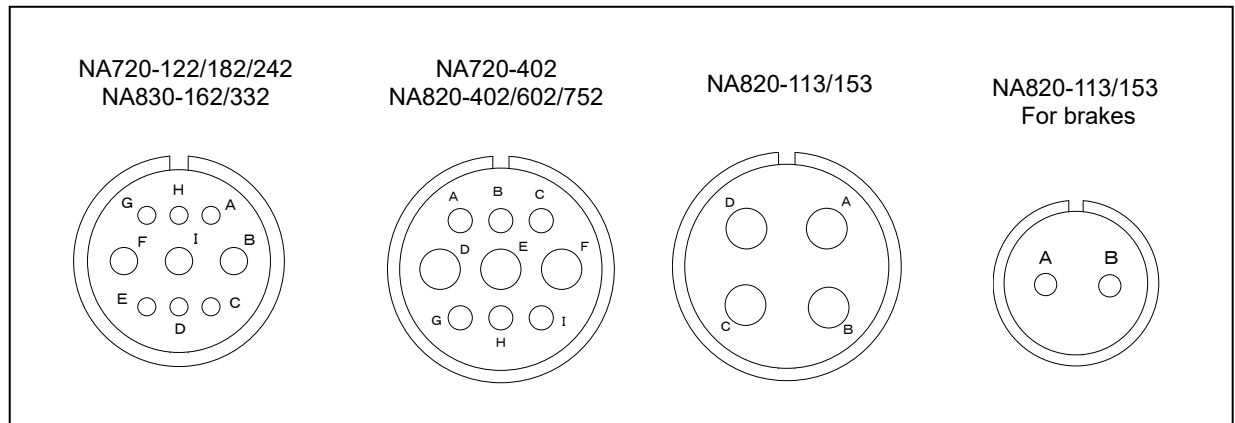

Figure 3-6 Layout of motor wire connector No.
- (1) Connect correctly without mistakes in the phase sequence of the motor connecting terminal (U, V, W, E) and the device connecting terminal (U, V, W, E). (Connect U-U, V-V, and W-W respectively). Connection in the wrong phase sequence interrupts the normal operation, and the motor can vibrate and the motor can also run regardless of the input command, which is very dangerous.
- (2) Motor connecting terminals (U, V, W, E) of the SM motor, model NA720-122/182/242/402, NA830-162/332, and NA820-402/602/752/113/153, are the Cannon type (male). Prepare the Cannon connector for the wiring-side by the user or contact us for options. The table below indicates the Cannon model for the wiring-side (female), and Figure 3-6 indicates the motor connector No. and the connector connection table.